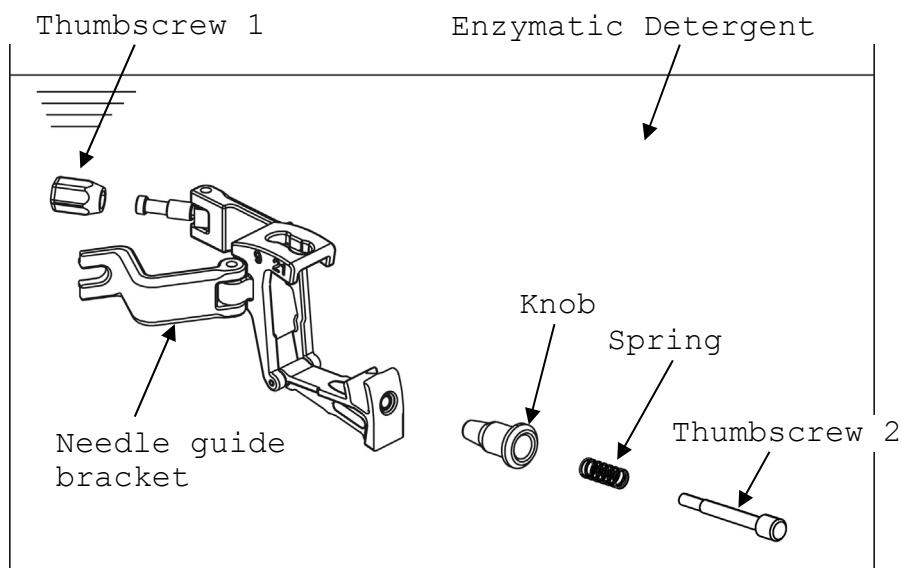

Fig.5 Immersion of the Needle Guide Bracket
- 3) Immerse the needle guide bracket and thumbscrew 1, thumbscrew 2, spring and knob in the enzymatic detergent solution. (See Fig.5)
- 3) Immerse the needle guide bracket in the disinfectant for a time period of the contact-time (See Fig.5).